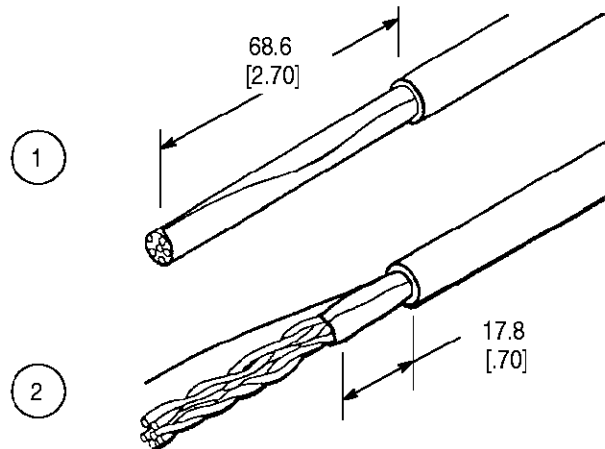

Figure 2
1. Strip cable jacket back 50.8 mm [2.00 in.] as shown in Figure 2.